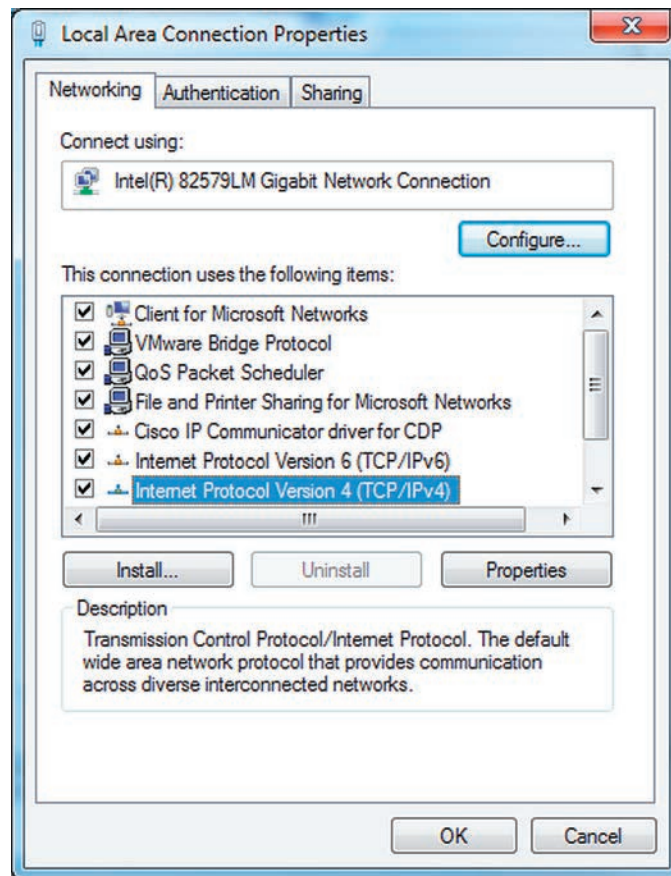

Figure 8. Local Area Connection Properties dialog box.
STEP 21. Open the Local Area Connection Properties dialog box on Laptop #1. Scroll and select the **Internet Protocol Version 4 (TCP/IPv4)** option. See Figure 8.